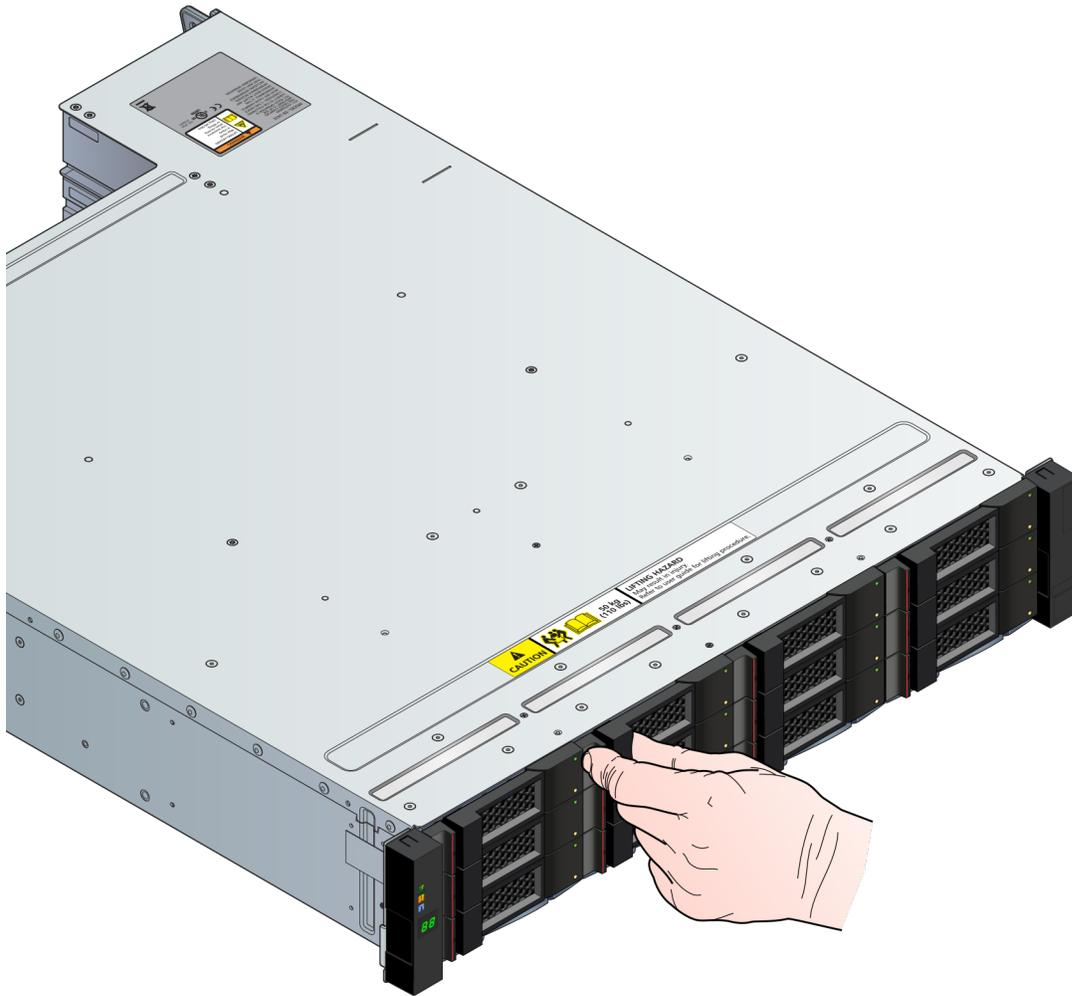

Figure 77. Removing a Drive Carrier Module (1)
1. Press the latch in the handle towards the handle hinge as shown in Figure 77 “Removing a Drive Carrier Module \(1\)” on page 78) to release the carrier handle.